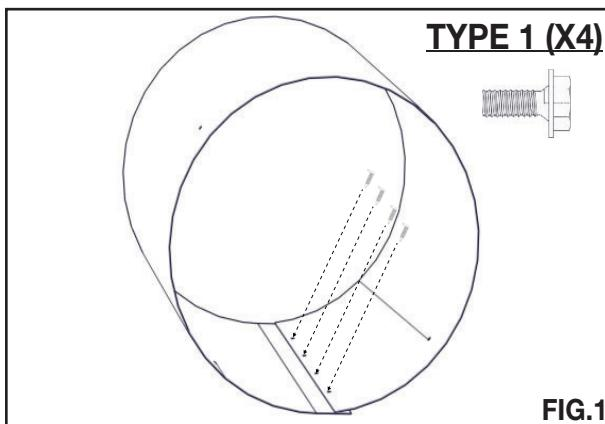

FIG.1
- D. Form the vent shield until the four screw holes overlap then secure from the inside out. (**FIG. 1**)